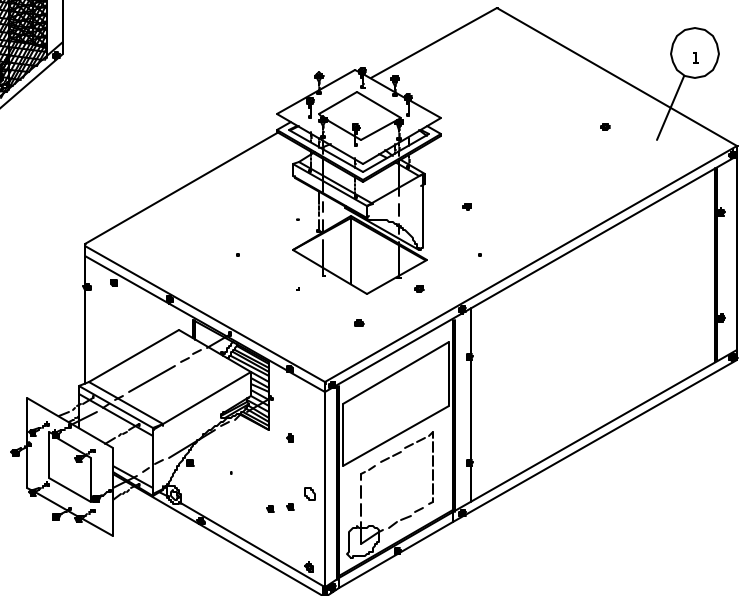

FIGURE 2
1. Remove top. See Figure 2, #1.
1. Remove top panel. See Figure 2, #1.